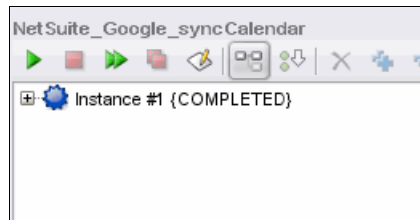

Figure 11-25 Verify tab showing NetSuite Search Records activity
2. When the dialog box closes, go to the Verify tab, as shown in Figure 11-25.